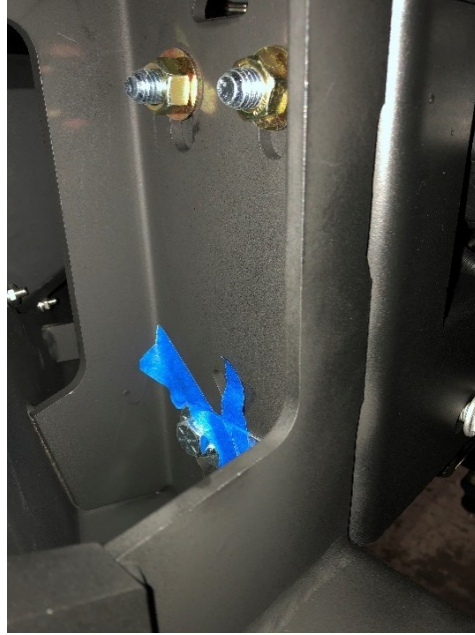

Figure 8
10. With the bumper in place loosely install using the bolt strips and 1/2" flat and lock washers with nuts (50246-HW). (Fig.8)